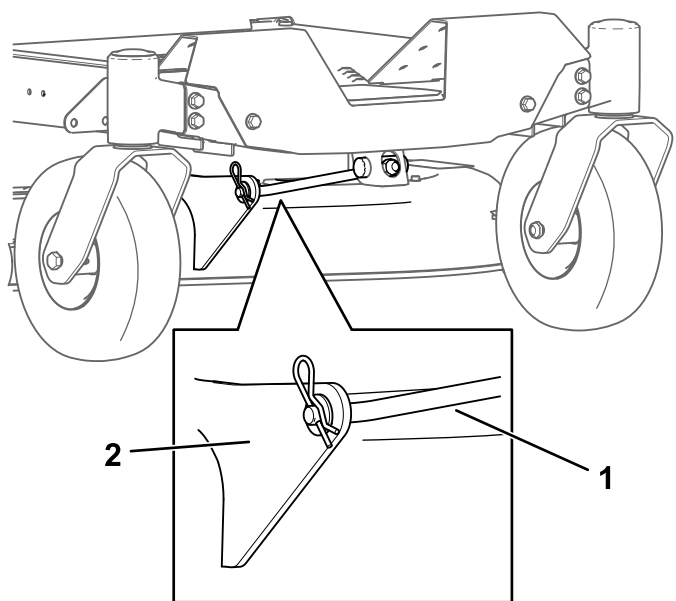

Figure 72
4. Remove the hairpin cotter from the front support rod, and remove the rod from the deck bracket (Figure 72).
8. Attach the front support rod to the mower deck with the clevis pin and hairpin cotter (Figure 72).